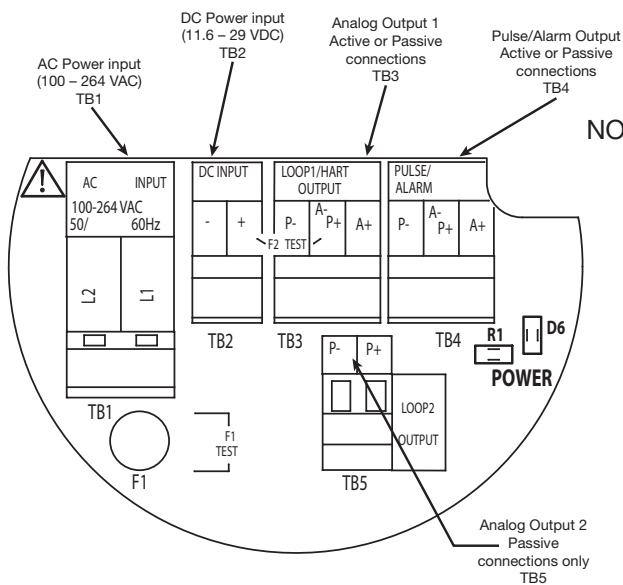

Figure 8
The instrument has separate wiring connections for AC (100 to 264 VAC) and DC (11.6 to 30 VDC). AC power wiring connections are made to terminal block TB1. DC Connections are made to terminal block TB2. Refer to Figure 8.
4. Connect power leads to proper terminals. Refer to Figure 8.
Active Connection—Use the active connection when the TA2 is providing power for the 4-20 mA signal. Use connections A- and A+ (see figure 8). The active connection will drive a 1000-ohm loop resistance.
Passive Connection—Use the passive connection when an external power supply or the control system is used to power the 4-20 mA loop. Use connections P- and P+ (see figure 8). The resistance is dependent upon the customer-supplied power supply.
Pulse/alarm output—Use the active connection when the TA2 is providing power for the pulse/alarm output. Use connections A- and A+ on TB4 (see figure 8).